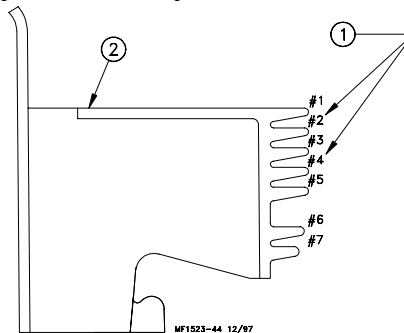

Figure 11. (Side View)
1. Broilers: Position the lip of the feeder pan in the #2 tab of 2 of the struts. See Figure 11.
Turkeys: Position the lip of the feeder pan in the #4 tab of 2 of the struts. See Figure 11.